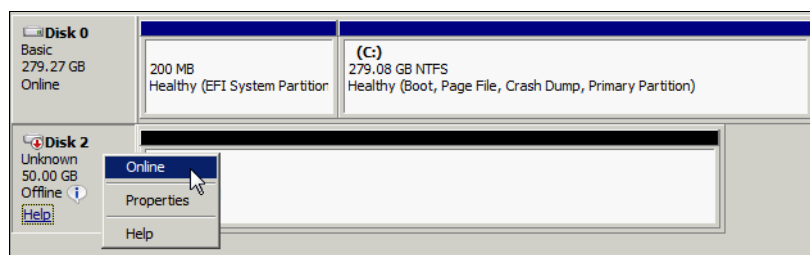

Figure 12-6 Place a disk online
4. Right-click the disk in the left pane and select **Online** (Figure 12-6).